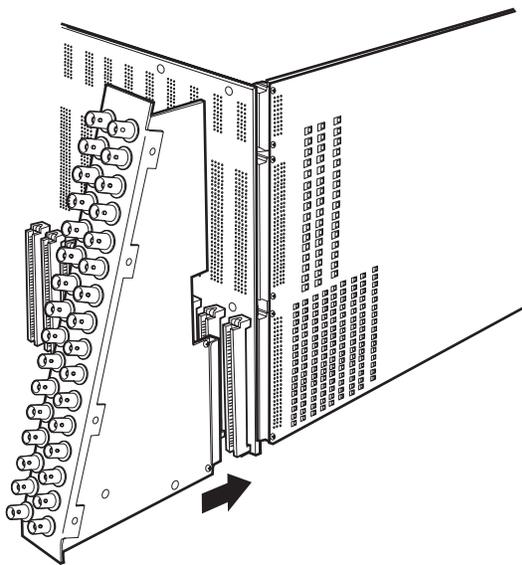

Figure 6. Insert a Rear Panel Video BNC Card (CM9765-RPC)
1. Slide the video BNC card into the card guides at the rear of the bay. From the rear of the bay, the slot at the far right provides the connection point for the video input card inserted in the front of the bay into slot 1. Refer to Figure 6.